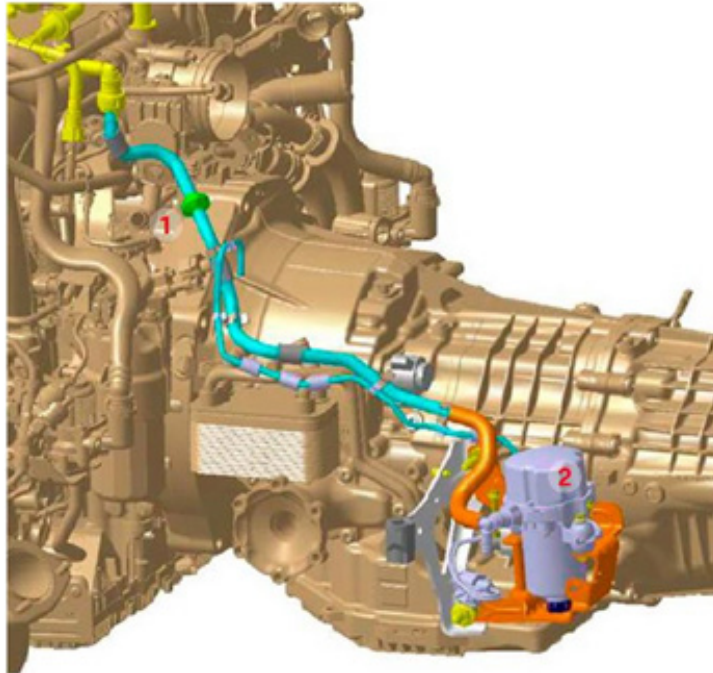

Figure 3
- b. Check the vacuum line connections on the electric vacuum pump (2 in Figure 3 below).